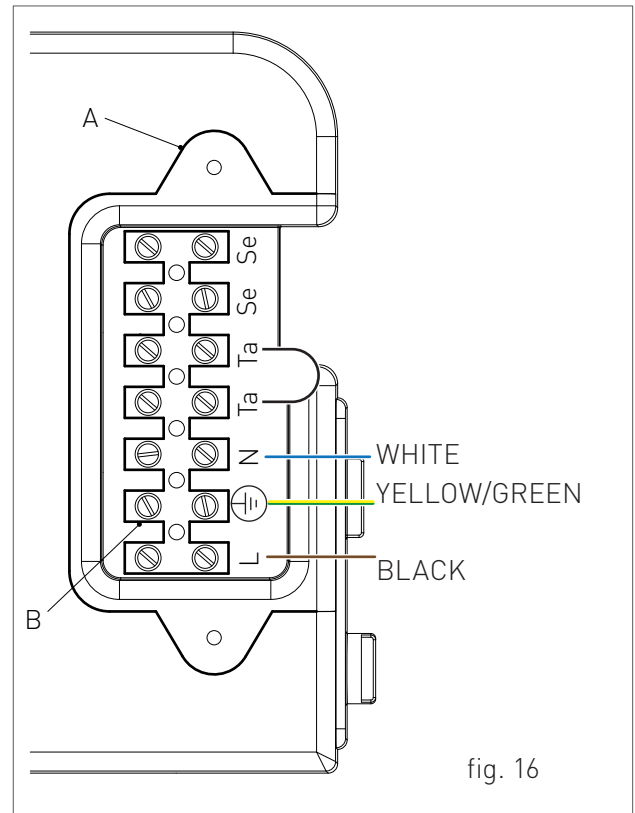

fig. 16
- > loosen the two screws and remove the plate "A" (see fig. 16).
- > after removing the plate, connect the electrical cables to terminal "B" (see fig. 16):